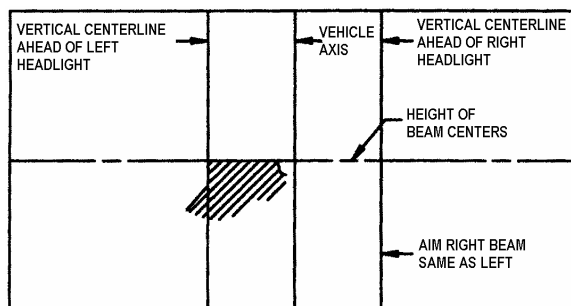

FIGURE 33: HIGH-INTENSITY ZONE (SHADED AREA) OF A PROPERLY AIMED LOWER BEAM ON THE AIMING SCREEN 7.6 M (25FT) IN FRONT OF VEHICLE 06504
6. Low beam headlights are aimed so that the top edge (the cutoff) of the high-intensity zone is at the vertical location as per Table 1 and the left edge of the high-intensity zone is at the vertical centerline of the headlight (Fig. 33).